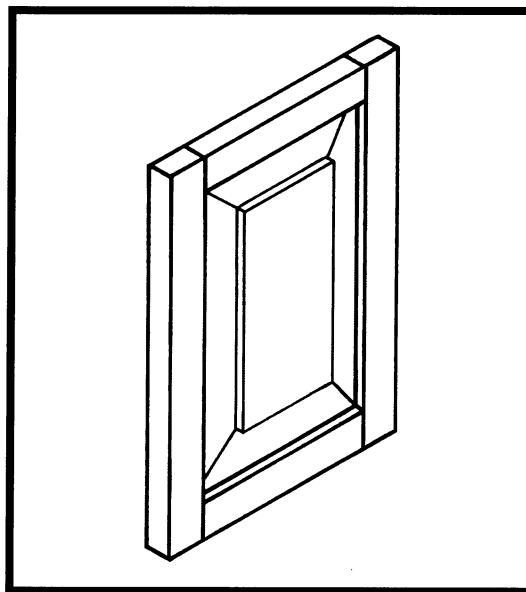

Figure 4.4
4.4 **Figure 4.4** shows a sketch of a doorframe with a solid raised panel.